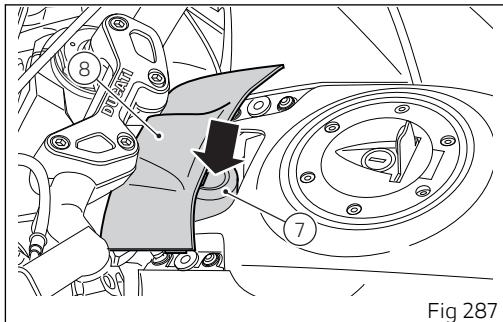

Fig 287
(Fig 287) indicates the position of the Hands Free block (7), with protective cover (8) and (indicates the position of the antenna (6).